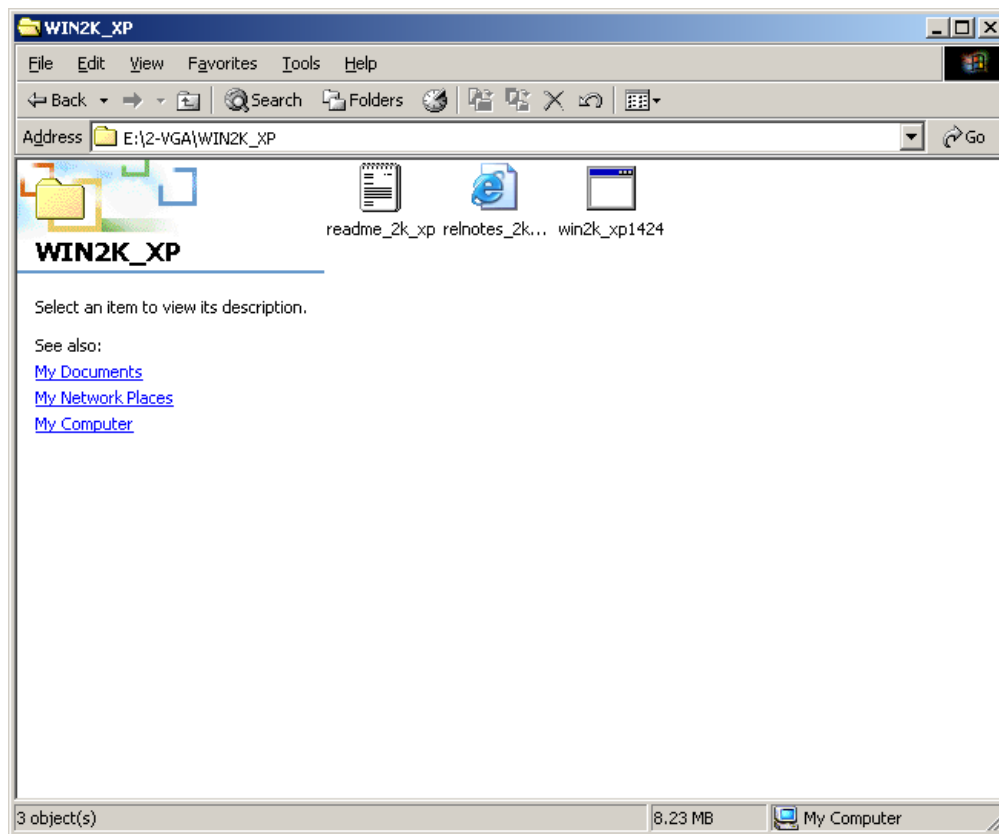

Figure 7-9: VGA Driver
Step 4: A new window appears (**Figure 7-9**).
Step 5: Click the installation program icon in **Figure 7-9**.